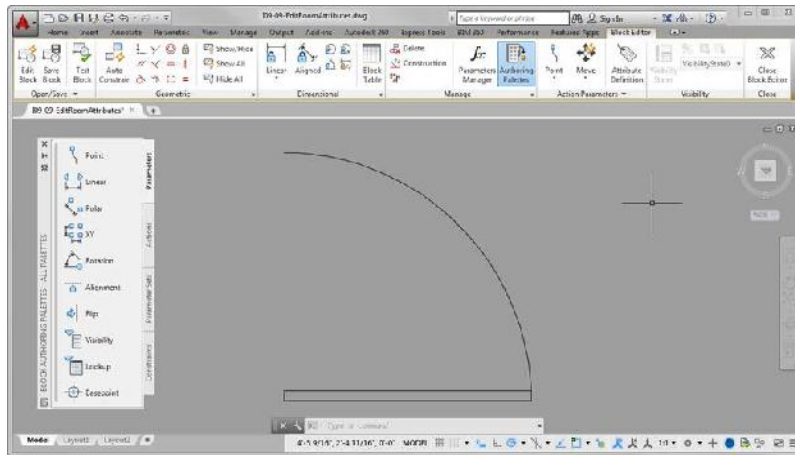

FIGURE 9.41: The door block in the Block Editor
9. Pan the view, and adjust the Block Authoring palettes so that your screen looks similar to Figure 9.41.